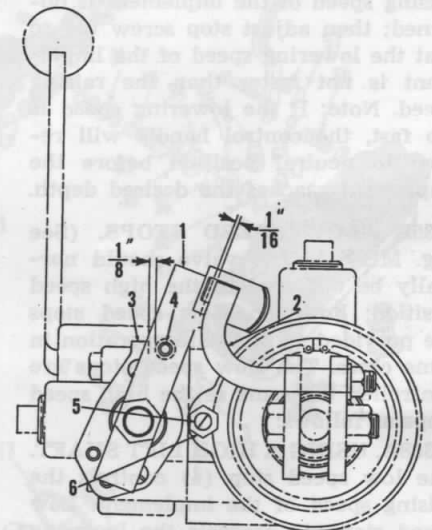

Fig. MH462—"Depth-O-Matic" cylinder and control valve adjustments.
355. **STOP LEVER.** (See Fig. MH462). Adjust stop lever (1) to obtain 1/16 inch clearance between the stop lever and the follower arm (2). The stop lever can be moved by loosening the retaining nut.
356. **STOP PLATE.** (See Fig. MH462). Loosen retaining screws in stop plate (3) and move the plate until there is a clearance of 1/8 inch between it and slow stop screw (4) also shown in MH461.
**360. SHUT-OFF VALVE.** (See Fig. MH462). The adjustment of shut-off valve (5) either places the tractor mounted "Depth-O-Matic" cylinder in or out of operation, depending upon the equipment being used. For mounted equipment, which used the mounted cylinder, the screw should be turned out. For pull-behind and other